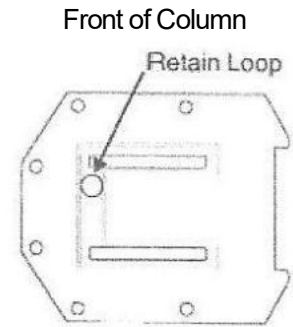

Figure 5
- 1.Feed the one of the long hoses down the column starting at the middle retaining loop above the carriage on the non-power pack column.Feed the hose down the Front of the column as shown in Figure 5.Ensure the cable passes on the front side of the safety stop and does not interfere